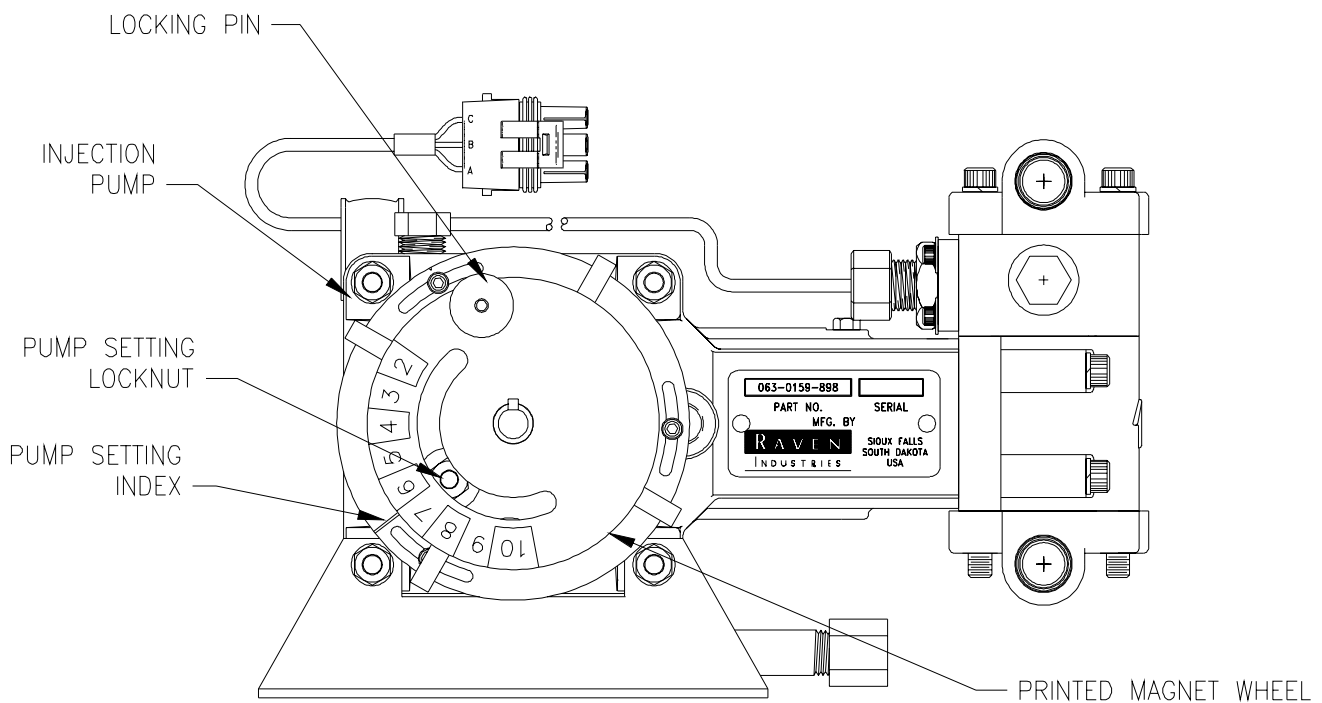

FIGURE 1
To prime the Injection Pump, complete the following procedure. (See Figure 1).
- 1) Loosen Pump Setting Locknut, pull out on the Locking Pin and rotate the Printed Magnet Wheel until Pump Setting Index Line is at the proper number. (See Figure 1).
*These calibration numbers depend on the number of magnets located on the printed magnet wheel. This chart reflects 4 magnets. If only 2 magnets are present on the printed magnet wheel, the calibration number will be 1/2 of the number shown on this chart. Ref. Figure 1, page 3.